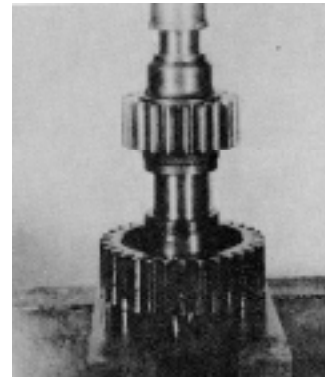

Figure 9B-70. Installing 2nd Gear
1. Secure the key into keyway of countershaft by driving on the key with a hammer. Support 2nd speed gear (under-drive) with long hub up. Align key with gear keyway and press shaft and key into gear, Figure 9B-70. Seat the gear face of shaft firmly against the face of 2nd speed gear (underdrive). Key must be under the face of gear.
2. Secure the key for the 4th speed gear (overdrive) into the countershaft keyway. Support the overdrive gear with the long hub down. Press the shaft and key into the gear, Figure 9B-71. Seat the gear face firmly against the face of the underdrive speed gear. The key must be under the face of the gear.